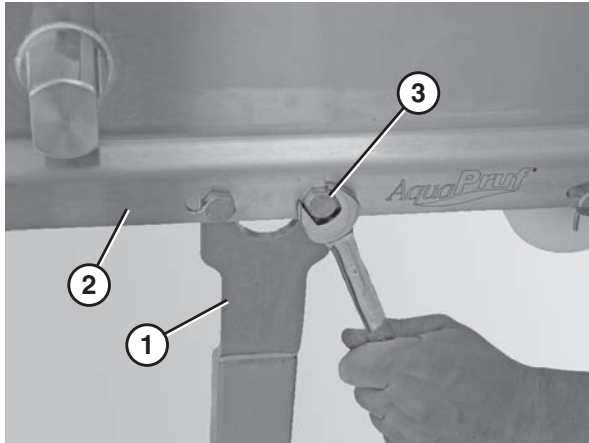

Figure 12
2. Attach the non-quick release side of the stand (**Figure 12, item 1**) to the MOTOR SIDE of the conveyor (**Figure 12, item 2**) using two M10-1.5 x 12 mm hex head cap screws (**Figure 12, item 3**).
3. Tighten the screws (**Figure 12, item 3**) to 80 in•lb (9 N•m).